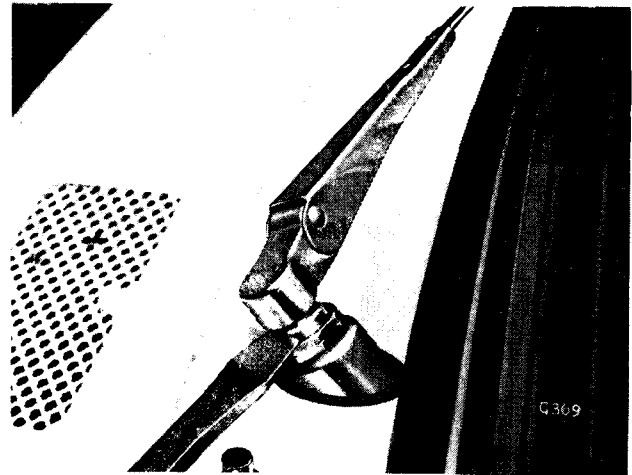

Fig. 80. Removing wiper arms
Remove the wiper arms and lock nuts (Fig. 80).
Remove the wiper arms and locknuts (1) (Fig. 80).
Remove the wiper arms and locknuts (Fig. 80).